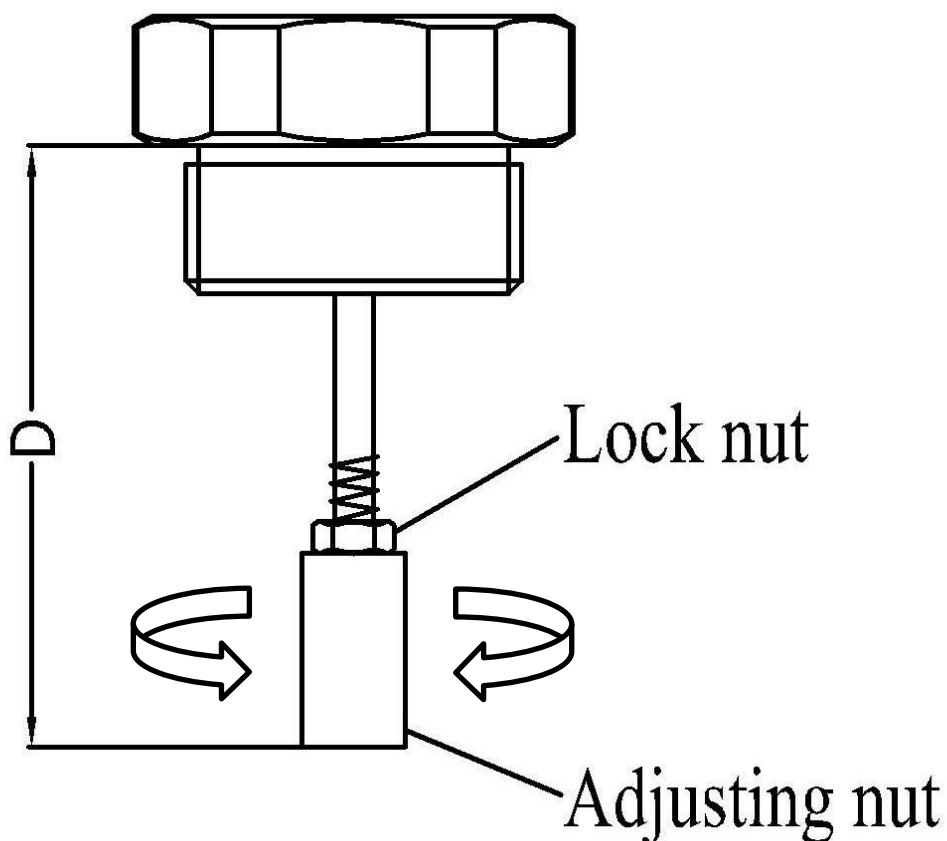

Figure 6. Travel sensor adjustment and measurement
3. Adjust the adjusting nut of the displacement sensor. Then measure the D value (as shown in Figure 6) by **the depth ruler** in the state of the displacement sensor being completely loosened. Calculate the compression value $L1 = D - C1$, $L2 = D - C2$. It is recommended that the compression value L1 and L2 are both in the reference range which is showed in Table 1. If L1 value or L2 value is unable to meet the reference range, adjust the D value according to the actual situation.